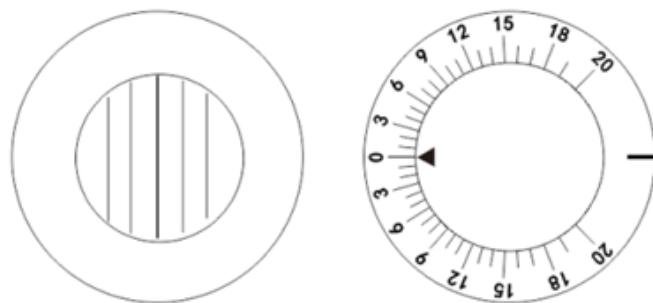
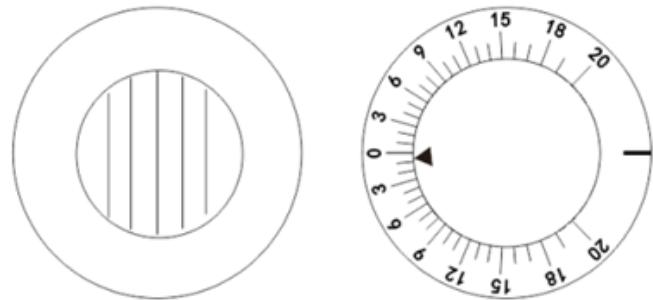

Fig.48
Fig.49
b. Then measure vertical phoria. As shown in Fig.48, turn auxiliary lens knob ⑪ and set MRRV for the right eye. Turn rotation prism lens ⑫ to set the left eye at horizontal position. Now Testee can see red horizontal line with the right eye, and the light spot with the left eye. Then using same procedure of a, ask Testee when he can see red line and light spot meet while turning prism lens rotation knob ⑬. When it is shown as Fig.49, Testee reports they meet, it is 0.5, below 0, indicating left eye is $0.5\Delta D$, called 0.5Δ upward heterophoria.